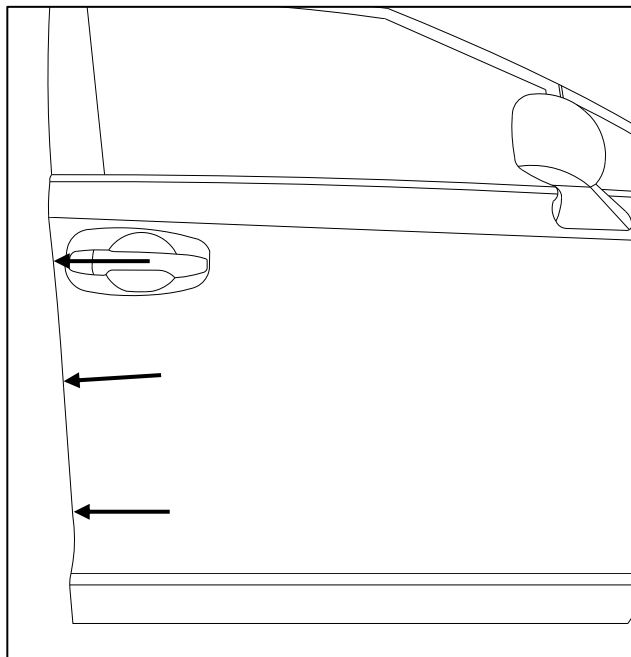

Fig. 1-8
- (k) Open front passenger door and clean and dry trailing edge of door as needed with distilled water and lint free towel. (Fig. 1-8)